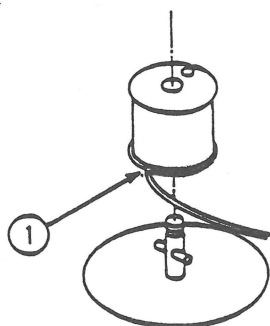

FIGURE 5
14. Remove the bottom end of the carrier wire from the motor pulley (see Figure 5, #1).